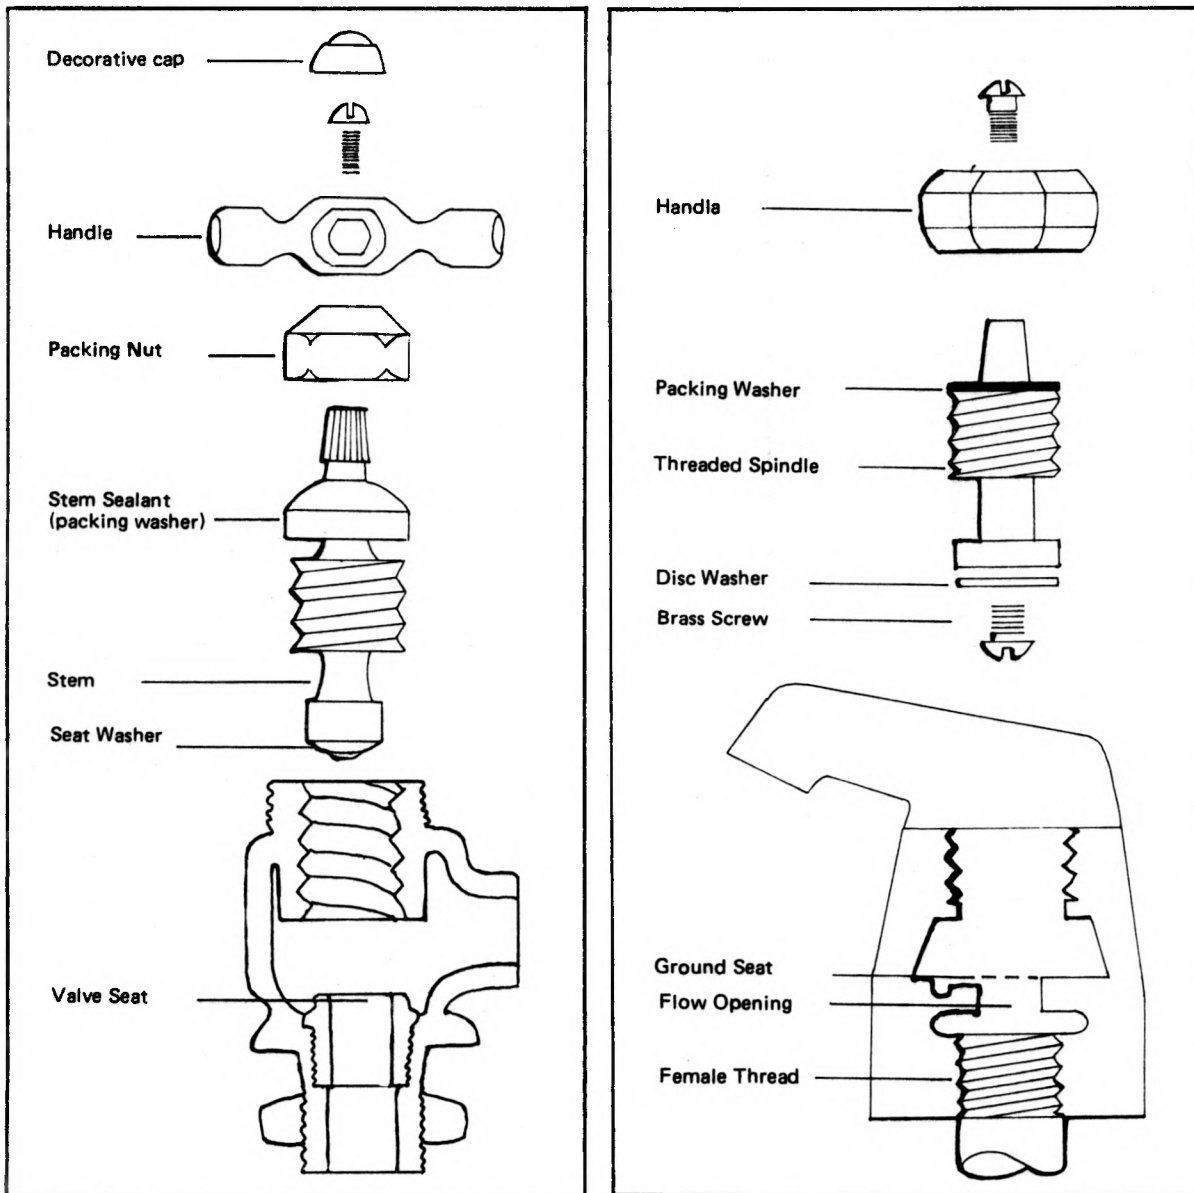

FIG. 4-12 COMPRESSION FAUCETS
- b. Remove the snap-in or screw-in cap that hides the screw holding the handle in place. See Figure 4-12.